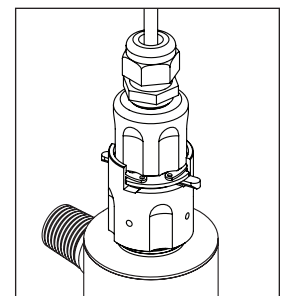

Figure 2E
4. Once the lamp is fully seated on the connector, slide the connector over the gland nut. Once the connector is located fully over the gland nut, rotate the tab back in to lock the connector in place (Figure 2E).